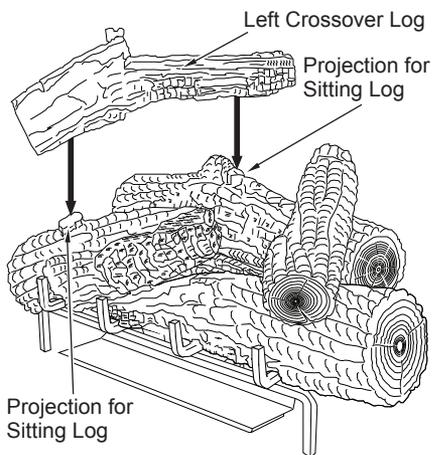

Figure 61 - Installing Left Crossover Log
6. Place the left crossover log onto the rear log and the left front log as shown in Figure 61. The left crossover log has notches in the bottom that will line up with the projections on the rear log and the left front log.